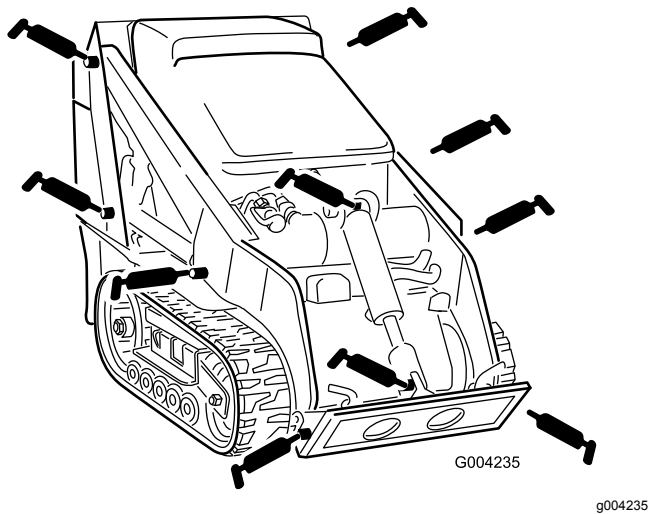
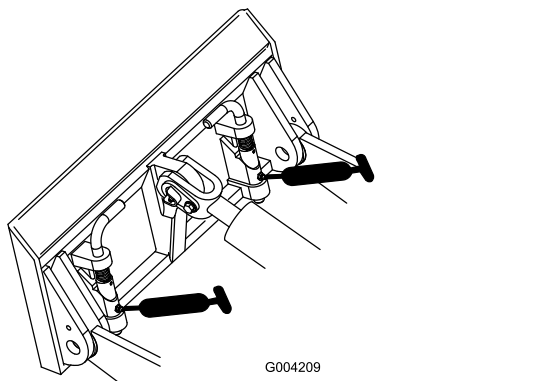

Figure 28
Figure 29
4. Connect a grease gun to each fitting (Figure 28 and Figure 29).